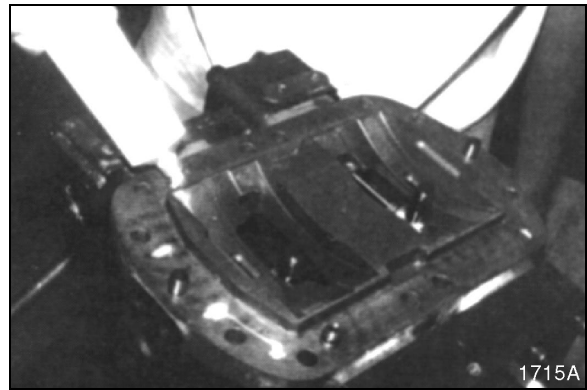

Figure 121
17. Clean mounting surface and apply Three-Bond 1215. See Figure 121.